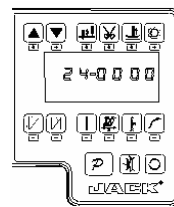

Fig.4-2
Step 1: Press  and  keys, enter monitor mode to the NO. 24th monitoring parameters. As shown in Figure 4-2
Step 2: Turn the handwheel so that the wiper to the position of the up needle position, LCD will show a mechanical angle of deviation. As shown in Figure 4-2 Legend.
Step 3: Press the  and  keys, LCD display 240000 (previous step mechanical deflection angle zero) to prove that the needle position set. As shown in Figure 4-2 Legend: